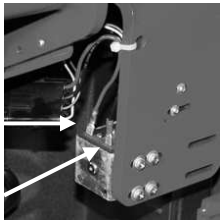

Figure 4
4. Remove the red and black wire leads connected to the down stop solenoid. See Figure 4